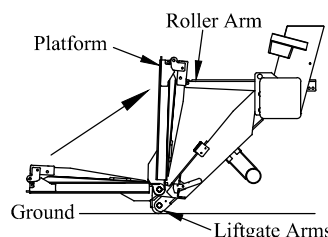

Figure 29: Step 14.
14. **With** the liftgate arms touching the ground, stand to the side of the platform, and fold the platform closed until it rests on the roller arm (Figure 29).